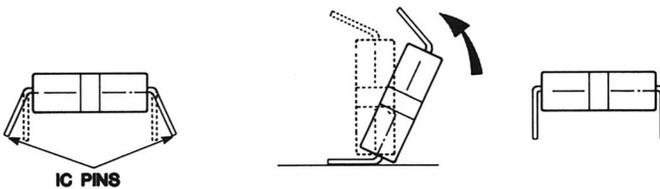

Figure 2-5. IC Pin Alignment
3. Adjust the pin alignment of the 80287 by laying the IC on its side and carefully rolling it until the pins are aligned as shown in Figure 2-5. This will allow you to properly seat the IC in its socket.